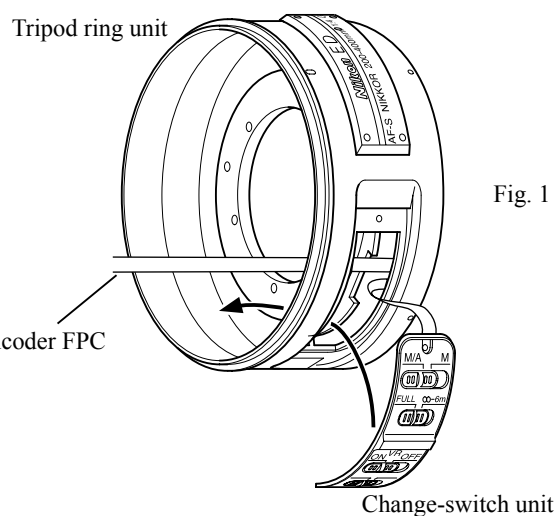

Fig. 1
- Detach the connector (at 2 parts). (ref. Fig. 1)
- Disconnect the connector. (ref. Fig. 1)
- Unfasten and pass the change-switch unit through the switch attaching hole of the tripod ring. (ref. Fig.1)